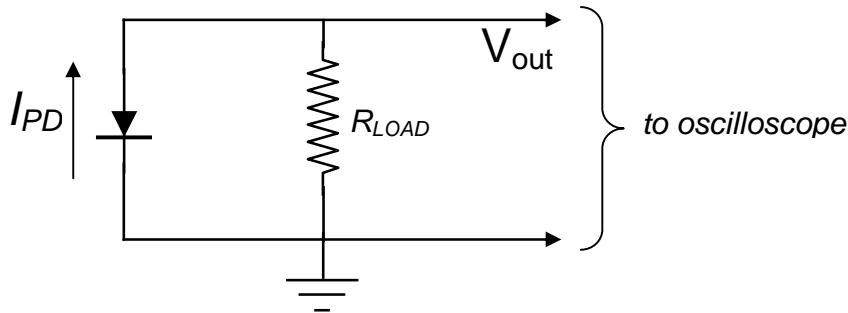

Figure 10.9: Photodiode with a resistive current-to-voltage converter.
The simplest way to read the current on a photodiode is to convert it to a voltage with a resistor as shown in figure 10.9 below. This circuit is very simple, but has the disadvantage that the resistor loads the photodiode which must produce a voltage across the resistor. The photodiode also has a capacitance proportional to its area which will also determine time response ($\tau = RC$): as this simple circuit makes clear, you cannot have high sensitivity and high speed at the same time.
2. Use an FDS100 Thorlabs photodiode to construct the circuit of figure 10.9 such that the current-to-voltage conversion is $10 \text{ mV}/\mu\text{A}$. Install the photodiode and the red LED in front of each other to maximize the amount of emitted light incident on the photodiode – ***fasten the photodiode and the LED securely so that they will not move. Also, you should make sure that the LED is not saturating the photodiode.*** Measure the rise time and fall time of the photo-current signal. You may increase the frequency on the function generator.